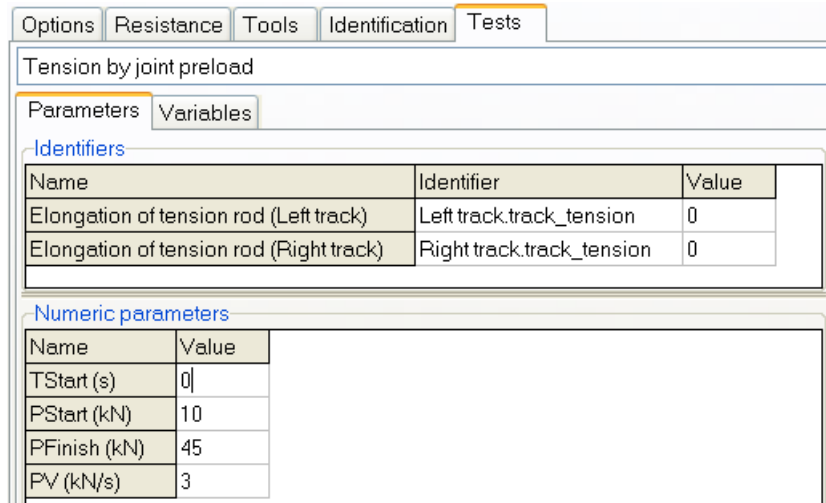

Рис. 44 Parameters of the test
Test parameters are presented in Fig. 44. First, identifiers of preload force in bushing models are specified in the **Identifiers** group. Increase of the value of these identifiers leads to the growth of the track tension. Note that these identifiers were found automatically because the standard name *track_tension* was used.
2) Set numeric parameters of the test as in Fig. 44. A uniform increase of the preload force in bushings starts from 10kN to 45 kN with the rate 3 kN/s.